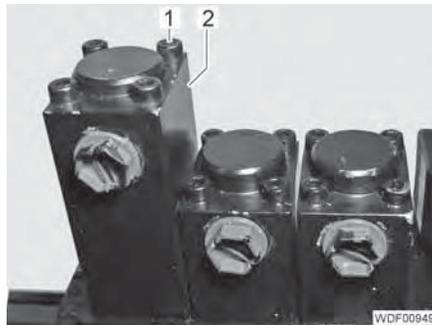

Fig. 178 Cover attachment
- Unscrew the 4 screws (Fig. 178,1).
- Remove the cover (Fig. 178,2).
- Coat the thread of the screws (Fig. 178,1) with locking agent.
- Simultaneously press the cover (Fig. 178,2) against the valve body and screw in and tighten 4 screws (Fig. 178,1).